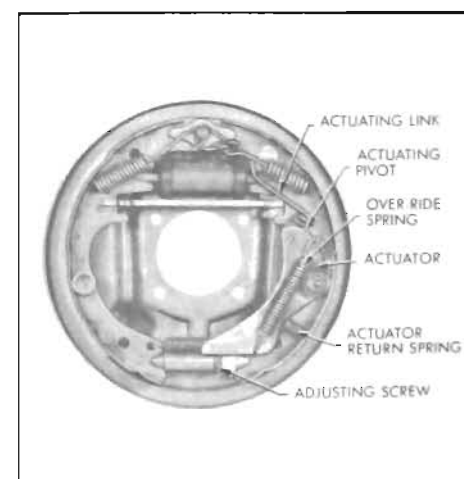

Figure 9-12—Rear Wheel Brake Assembly Left
**NOTE: It may be necessary to back off the brake shoe adjustment before the brake drums can be removed. To back off shoe adjustment, rotate shoe adjusting screw upward. See Figure 9-12.**
6. Separate the brake shoes by removing adjusting screw and lock spring. Remove parking brake lever from secondary brake shoe (rear only). See Figure 9-12.
4. Place brake shoes on backing plate, at the same time engaging shoes with wheel cylinder links. The primary shoe (short lining) goes forward. On rear brakes, connect cable to parking brake lever and install strut and spring between lever and primary shoe as shown in Figure 9-12.
5. Install actuator, actuator return spring and actuating link as shown in Figure 9-12.